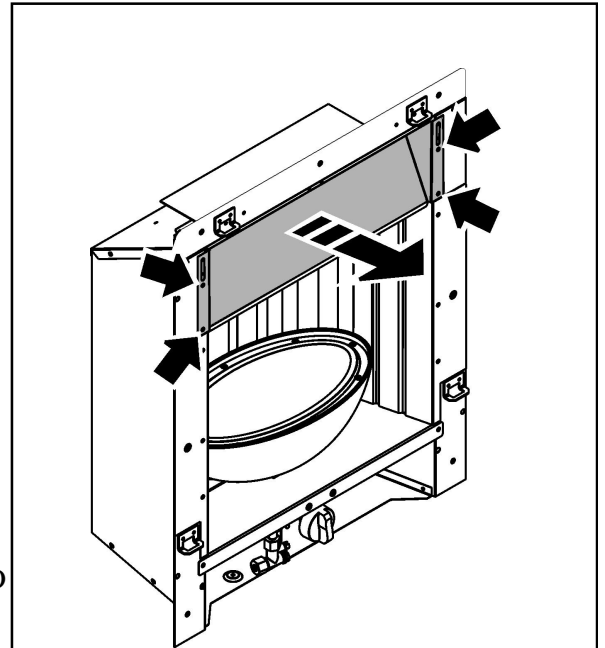

Figure 29. Spillage plate removal
2. Detach the spillage plate from the hotbox by removing the four screws (See figure 29).